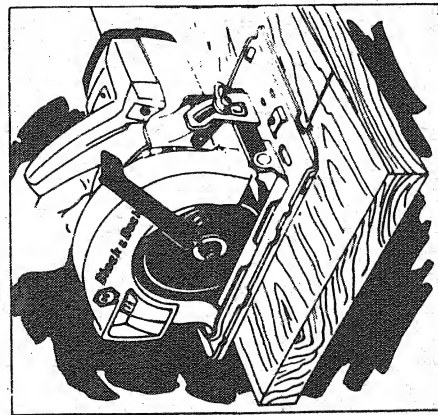
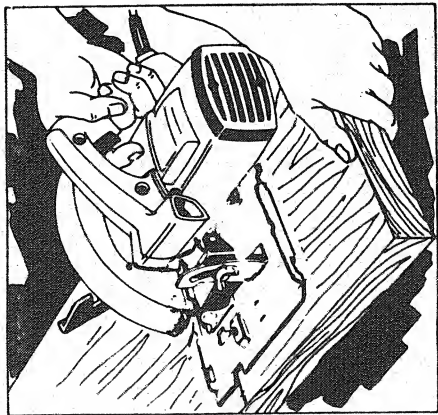

FIG. 9 — RIGHT
FIG. 10 — WRONG
5. **SUPPORT LARGE PANELS.** Large panels must be supported as shown in Figure 9 to avoid pinching and kickback.
9. **AVOID KICKBACK. KICKBACK OCCURS WHEN SAW STALLS RAPIDLY AND IS DRIVEN BACK TOWARD OPERATOR.** Release switch immediately if blade binds or stalls. Keep blades sharp. Support and secure work properly. Support large panels as shown in Figure 9. Use fence or straight edge when ripping. Don't force tool. Stay alert—exercise control. Don't remove saw from work during a cut while blade is moving.
Support the work so that the cut will be on your right. Place the wider portion of the saw shoe on that part of the work piece which is solidly supported, not on the section that will fall off when the cut is made. As examples, Figure 9 illustrates the **RIGHT** way to cut off the end of a board, and Figure 10 the **WRONG** way. If the work is short or small, clamp it down. Don't try to hold short pieces by hand!
Draw the required guide lines. Then rest the front of the saw shoe on the work with the guide edge lined up with the drawn guide line. Before starting the motor, push the blade lightly against the edge of the work and then back off about 1/4". Now, start the motor, and when the blade gains full speed, push the saw forward and begin sawing. As you begin cutting, the lower blade guard will automatically begin to telescope into the upper blade guard. This telescoping action will continue as you advance the saw until it reaches the position in Figure 9.